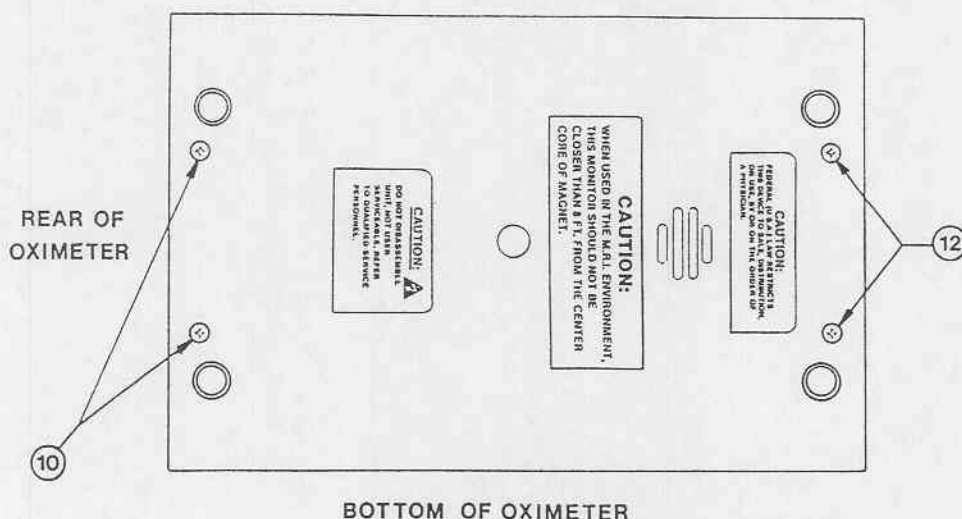

Figure 13. Remove the Rear Panel/Controller board and the Front Panel.
10. Refer to Figure 13. Remove the two (#2 phillips) screws and lockwashers that secure the rear panel to the bottom cover. Lift the Controller board and rear panel from the bottom cover. Remove the eight spacers on the bottom cover mounting studs.
12. Refer to Figure 13. Remove the two (#2 phillips) screws and lockwashers that secure the front panel to the bottom cover. Lift the front panel from the bottom cover.